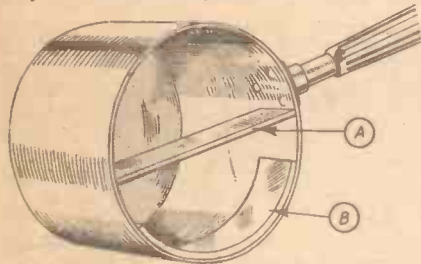

Fig. 1.—Forming curves with a saucepan.
Curves are the basis of many interesting designs, and the more usual ones are merely portions of the circle such as arcs and quadrants. No special formers need to be made for these because there are so many circular metal articles already available in every household. Fig. 1 shows the simple procedure using, in this example, a saucepan. A strip of Perspex is rested across the inside of the saucepan (A) and they are put in the oven together. As the plastic softens it sags by its own weight and finally rests snugly against the wall of the former (B). The former is taken from the oven and, while still hot, the position of the plastic adjusted if necessary, using any conventional tool applied to excess-ends so that marks will not be present after final trimming.